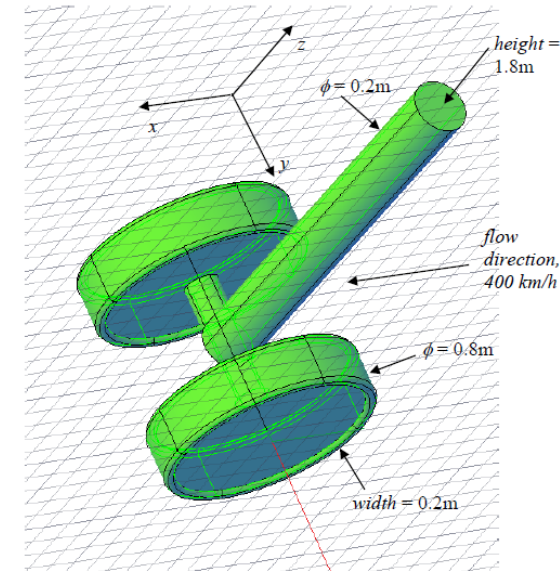

Figure Q13.
- (b) The box falls as indicated in Fig. Q13(a). Calculate the terminal free-fall speed of the box (terminal: when all the forces acting on the box are in equilibrium). You can use the data in Table Q13. [6]
- (c) Before touchdown, the pilot deploys three identical landing gears shown schematically in Figure Q13, one for the nose and one for each wing. At that moment the airplane is flying at 400km/h. The drag on each of the wheels is 406 N. Calculate the drag generated by the long cylinder representing the strut and hence the drag force due to the three landing gears. **Given** drag coefficient of a cylinder in the flow, which is turbulent, is $C_d=0.3$, and air density is 1.22 kg/m^3 . [5]